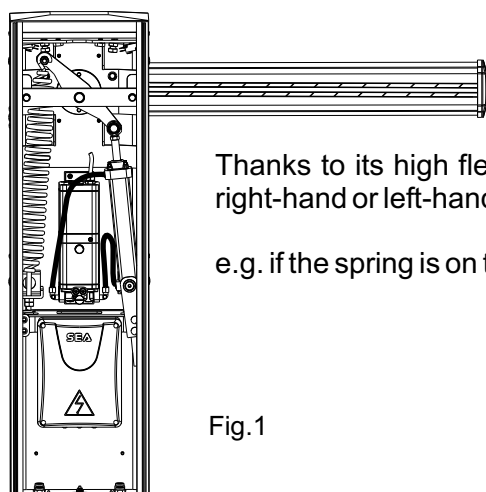

Fig.1
**N.B.:** The operator comes as shown in Fig.1 (opening on the left).
Barrier with opening on the left (Fig.1)